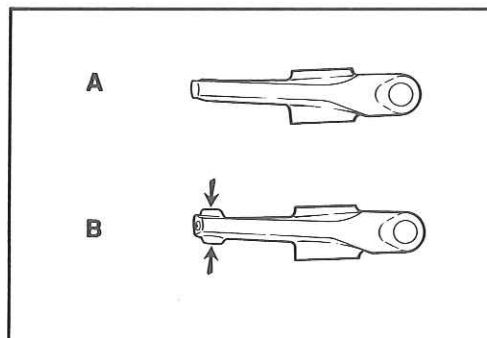

Fig. 6
(A) If the rocker lever pads are not narrow as shown in Fig. 6, then...